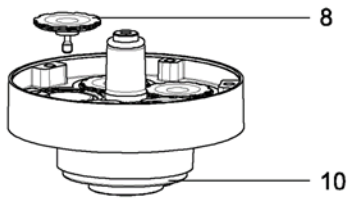

Fig. 6
1. Screw diaphragms (8) by hand into the diaphragm holder (10) and tighten.
2. As shown in Fig. 6, place diaphragm receiver (9) on a suitable surface.